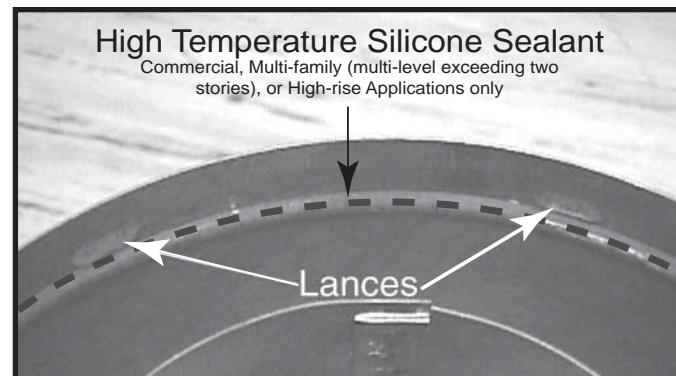

Figure 8.2 Lances
- Apply a bead of silicone sealant inside the female outer pipe joint prior to joining sections. See Figure 8.2